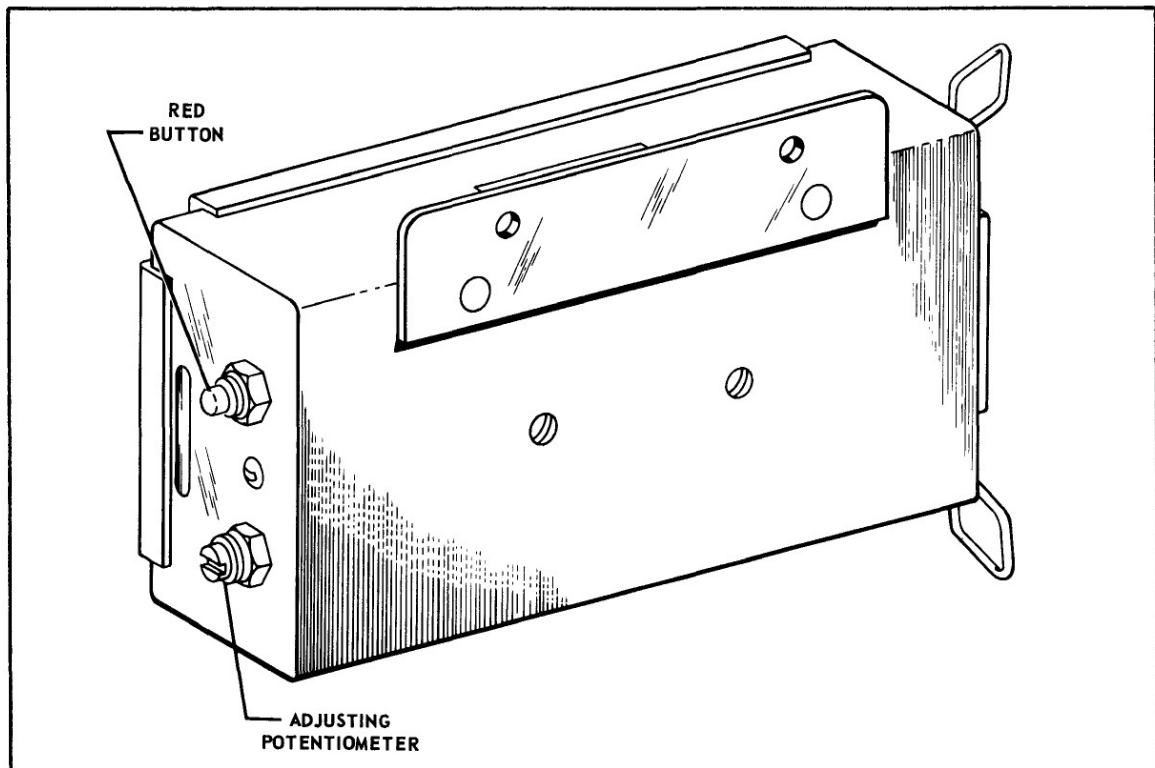

Figure 10-1. Glide Slope Coupler
10-1. INTRODUCTION. The information in this section will list the equipment necessary to bench check the Glide Slope Coupler and the proper procedure for connecting this equipment. The bench set-up procedure is also described. For red button and adjusting pot location on Glide Slope Amplifier, refer to Figure 10-1. For functional ground and flight checks, refer to Section XI. For Schematics, refer to paragraph 10-4 of this section.
36. Rotate slot head potentiometer on Glide Slope Coupler full clockwise. (Refer to Figure 10-1.)